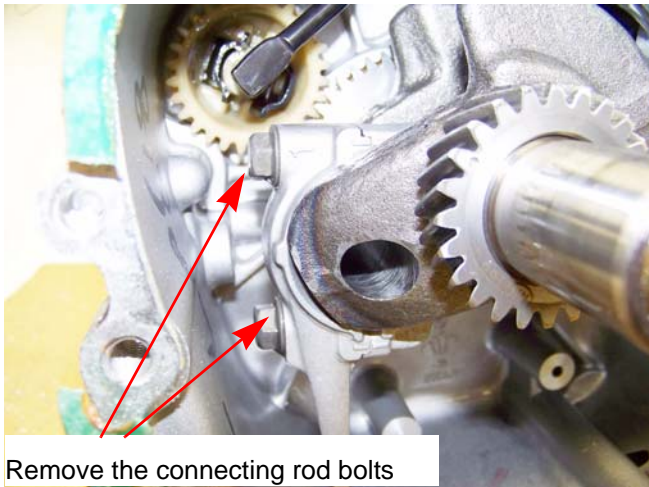

Figure 10.4
14. Remove the connecting rod cap using a 10mm wrench. See Figure 10.4.